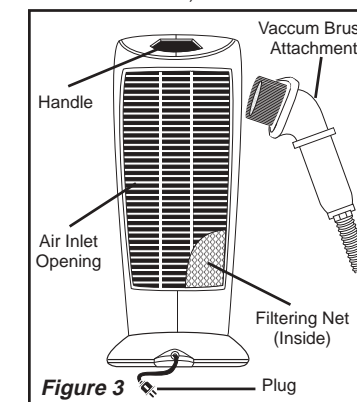

Figure 3
- Vacuum Rear Grill area of Heater with Vacuum Brush Attachment to remove lint and dirt from internal filter. **DO NOT ATTEMPT TO TAKE HEATER APART** (Figure 3). Do not remove grill guard or allow Heater to be operated without grill guard in place.